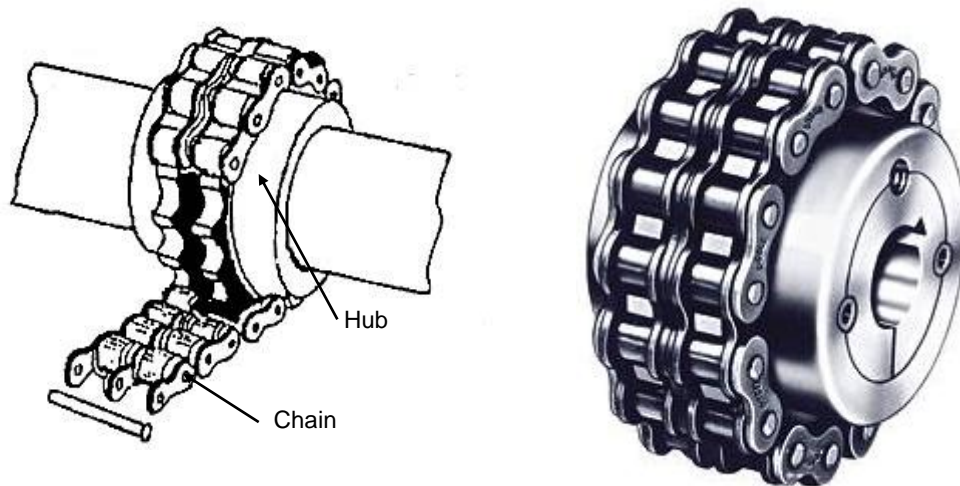

FIG 6.
- A. Chain couplings (Fig 6) are normally fitted to the drive and driven shaft with a solid or bushed hub.